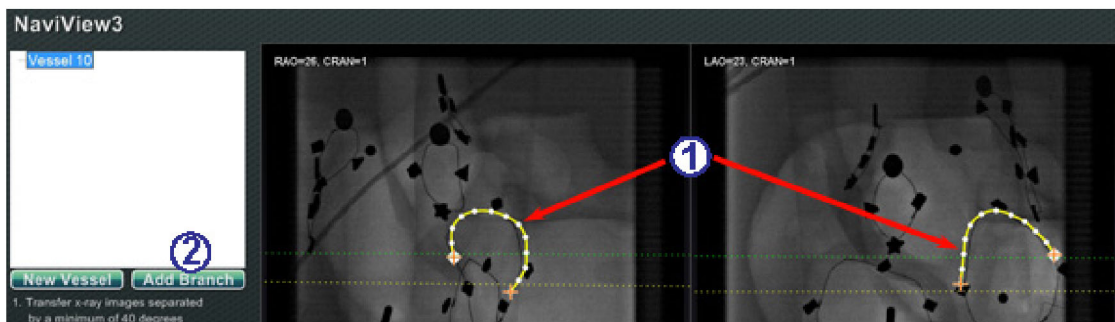
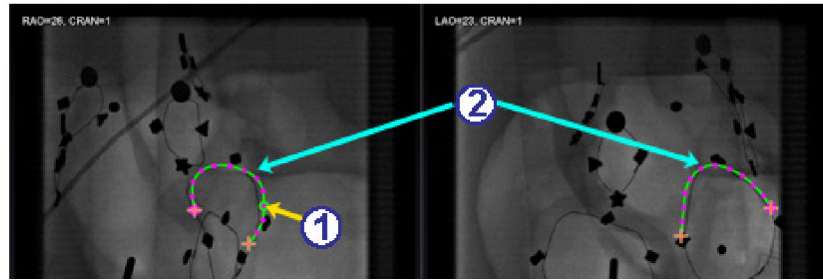
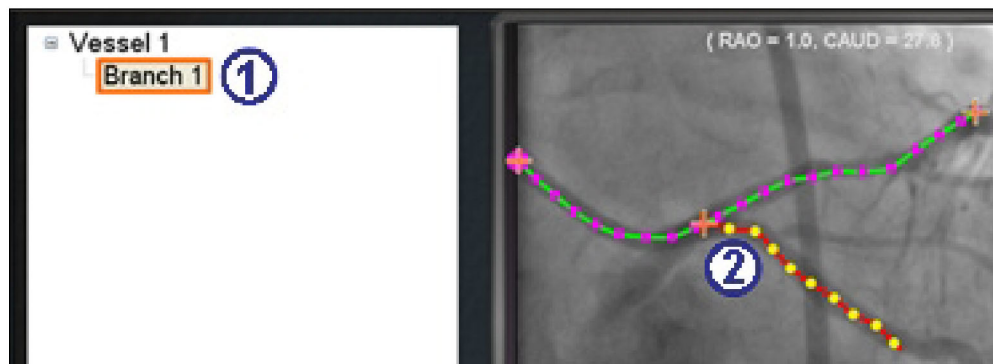
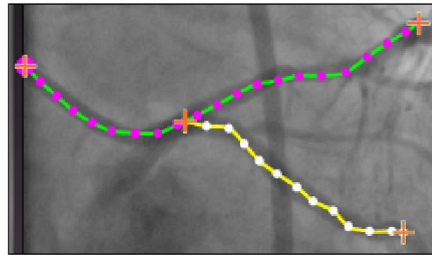

Figure 129. Adding branches – Start with matching trunks
Figure 130. Select branching point on one trunk
Figure 131. Branch name displays after selecting branching point
Figure 132. Completed branch in selected mode
Step 1 (Figure 129)
- ① To add branches, start with a pair of complementary trunks.
- ② Click **Add Branch**.
Step 2 (Figure 130)
- ① The user should select the point on the trunk where they wish to start the branch (**Figure 130**). The point can be existing or somewhere on the curve. If it's on the curve, a new point is created. The selected point is indicated by a green circle.
- ② Notice the trunks are now in the unselected mode, as evident by the green and purple (magenta) colors. The focus has changed to the branch about to be drawn.
Step 3 (Figure 131 and Figure 132)
- ① A default branch name {Branch #} displays in the directory window after clicking a starting point (**Figure 131**). (The user can rename branches and trunks the same way.) The branch being drawn is in drawing mode (red and yellow).
- ② If the user starts on the curve and changes their mind about the starting point, right-click, and the point disappears. This is only true when starting a branch or trunk. If starting on an
existing point, simply right-click elsewhere to deselect that point. Complete the drawing by double-clicking the distal point, and the branch will display in the selected mode, yellow and white, **Figure 132**.